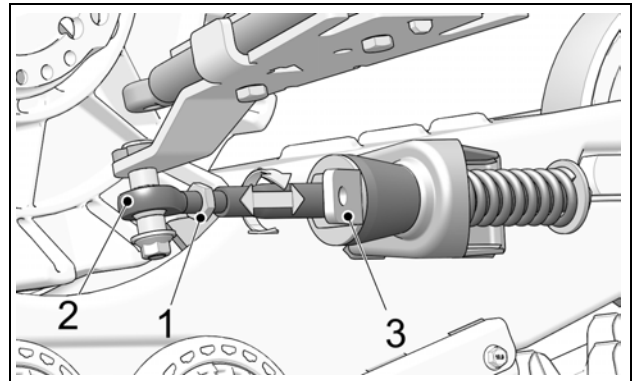

Figure 6
- Loosen jam nut (1). Adjust length of rod end (2) by rotating the steering limiter support plate on (3) the stabilizing arm. Use a 30 mm wrench to rotate support plate to obtain a perfectly centered bubble in the level. Refer to Figure 6.